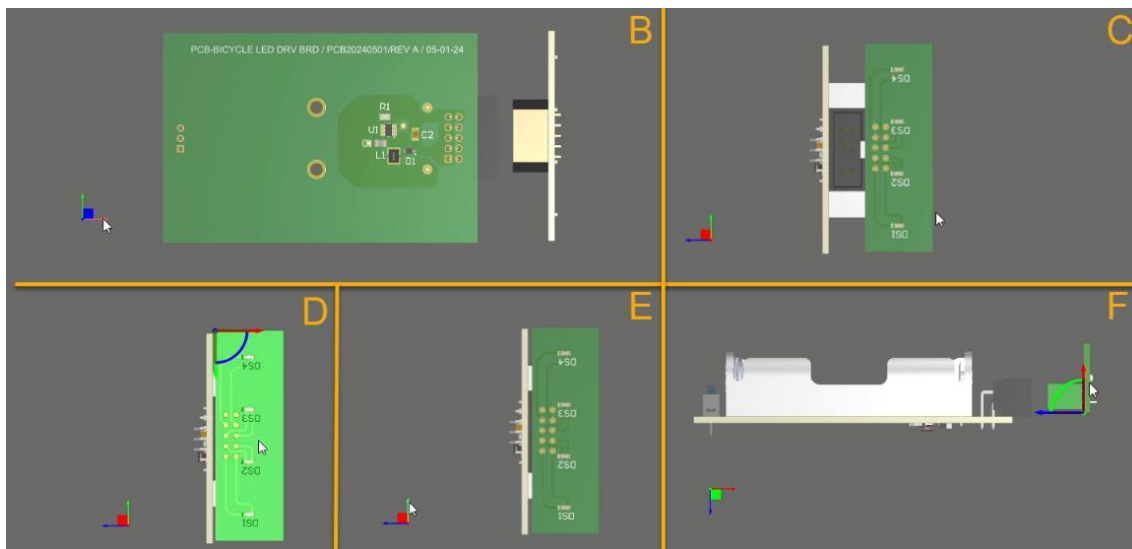

Figure 29. Position the small PCB
61. Next, you will align the smaller board to the larger board J1 connector. Steps from b) to f) follow the same letter captions as seen in Figure 29 below.
- b) Left mouse click on the Red cartesian arrow as seen in image B from Figure 29 to get the front view seen in image C.
- d) Left mouse click on the Green cartesian arrow to get the side view seen in image F of Figure 29.